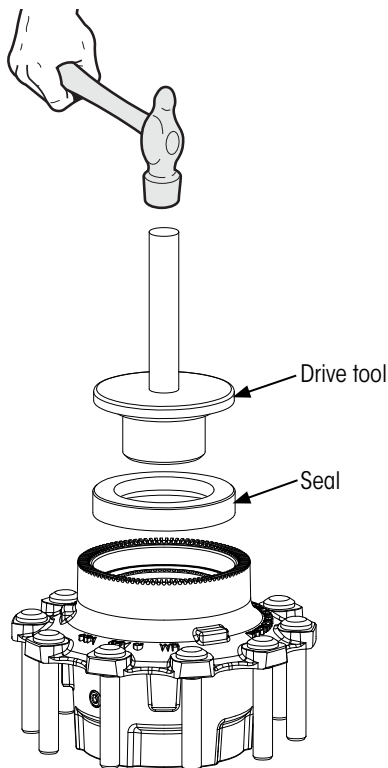

Figure 11: Hub-mounted seal installation
NOTE: A hub seal driver (Figure 11) is recommended and can be obtained from seal manufacturer.
8. **Place** seal onto the drive tool (Figure 11) for installation into the hub according to seal manufacturer's instructions.